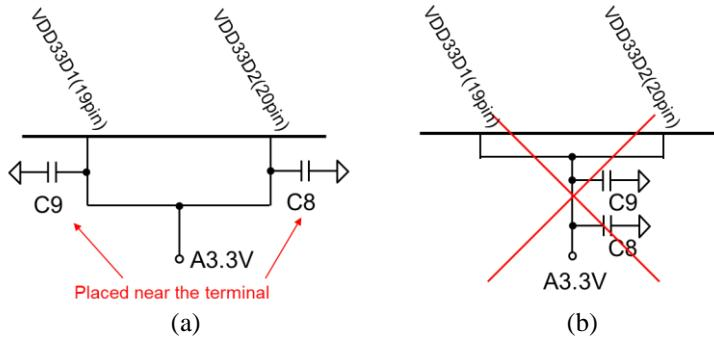

Figure 2-5 Example of connecting the decoupling capacitor of the power supply terminal of the DC-DC converter
- Figure 2-5 shows an example of connecting the decoupling capacitor of the power supply terminal of the DC-DC converter. As shown in (a), place the decoupling capacitor in the immediate vicinity of the power supply terminal.